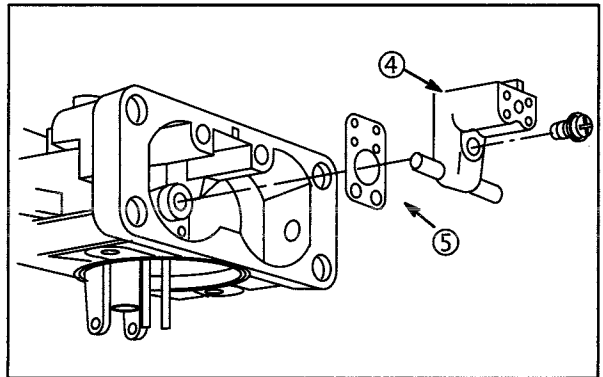

Fig. 125
- Install nozzle body (4) with new gasket (5), **Fig. 125**. Tighten screw securely.